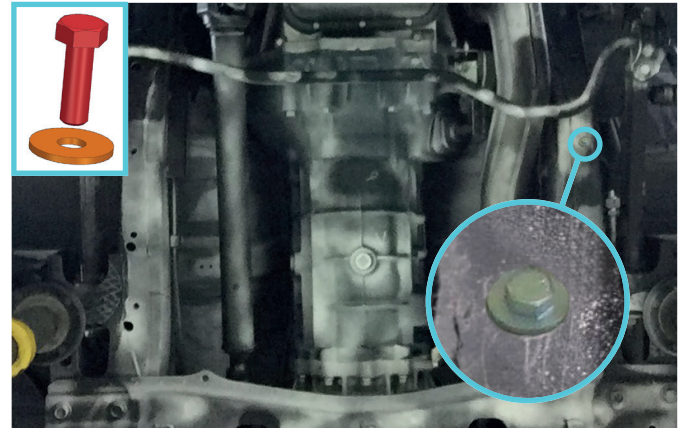

Fig. 2
2. Loosely insert supplied bolt M8x1.25x25 with washer M8 (items A, B) into insert nut M8x1.25 from step 1 as shown in fig. 2.